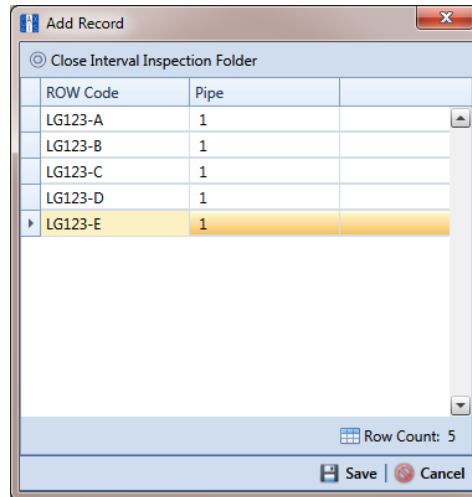

Figure 6-5. Add Record
- 5 Click the  **Add** button to open the *Add Record* dialog box (Figure 6-5, page 163).